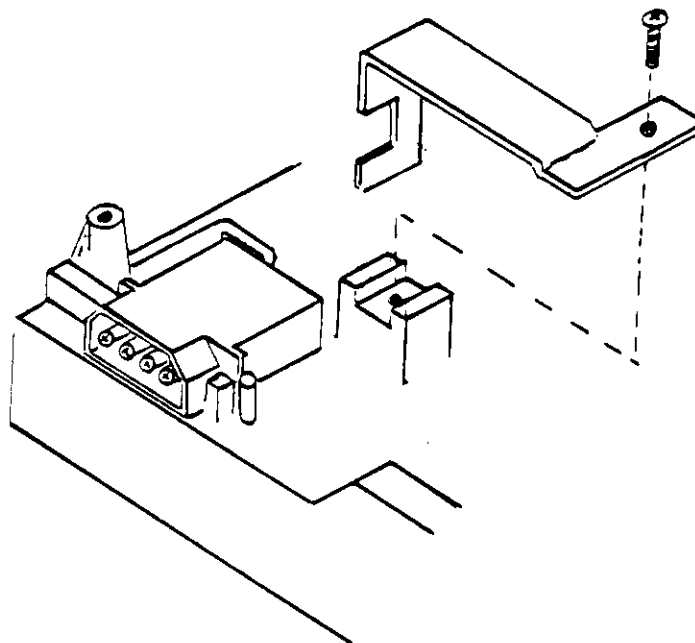

FIGURE 6-4
3. Remove the Number 1 Phillips screw from the power input retaining bracket (Figure 6-4).